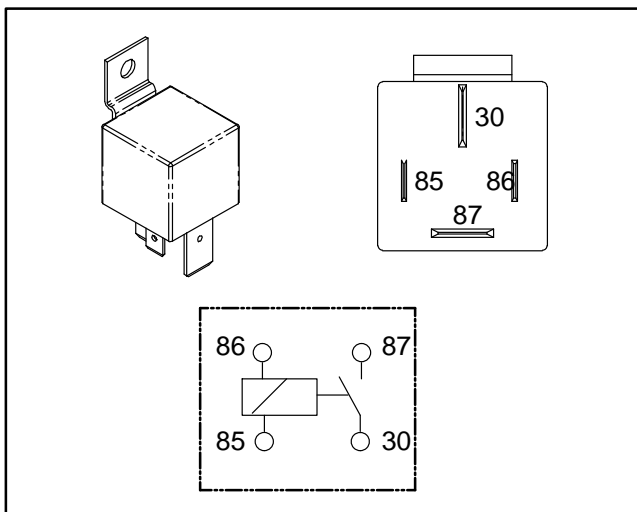

Figure 76
3. Measure coil resistance between terminals 85 and 86 with a multimeter (ohms setting) (Fig. 76). Resistance should be approximately **72 ohms**.